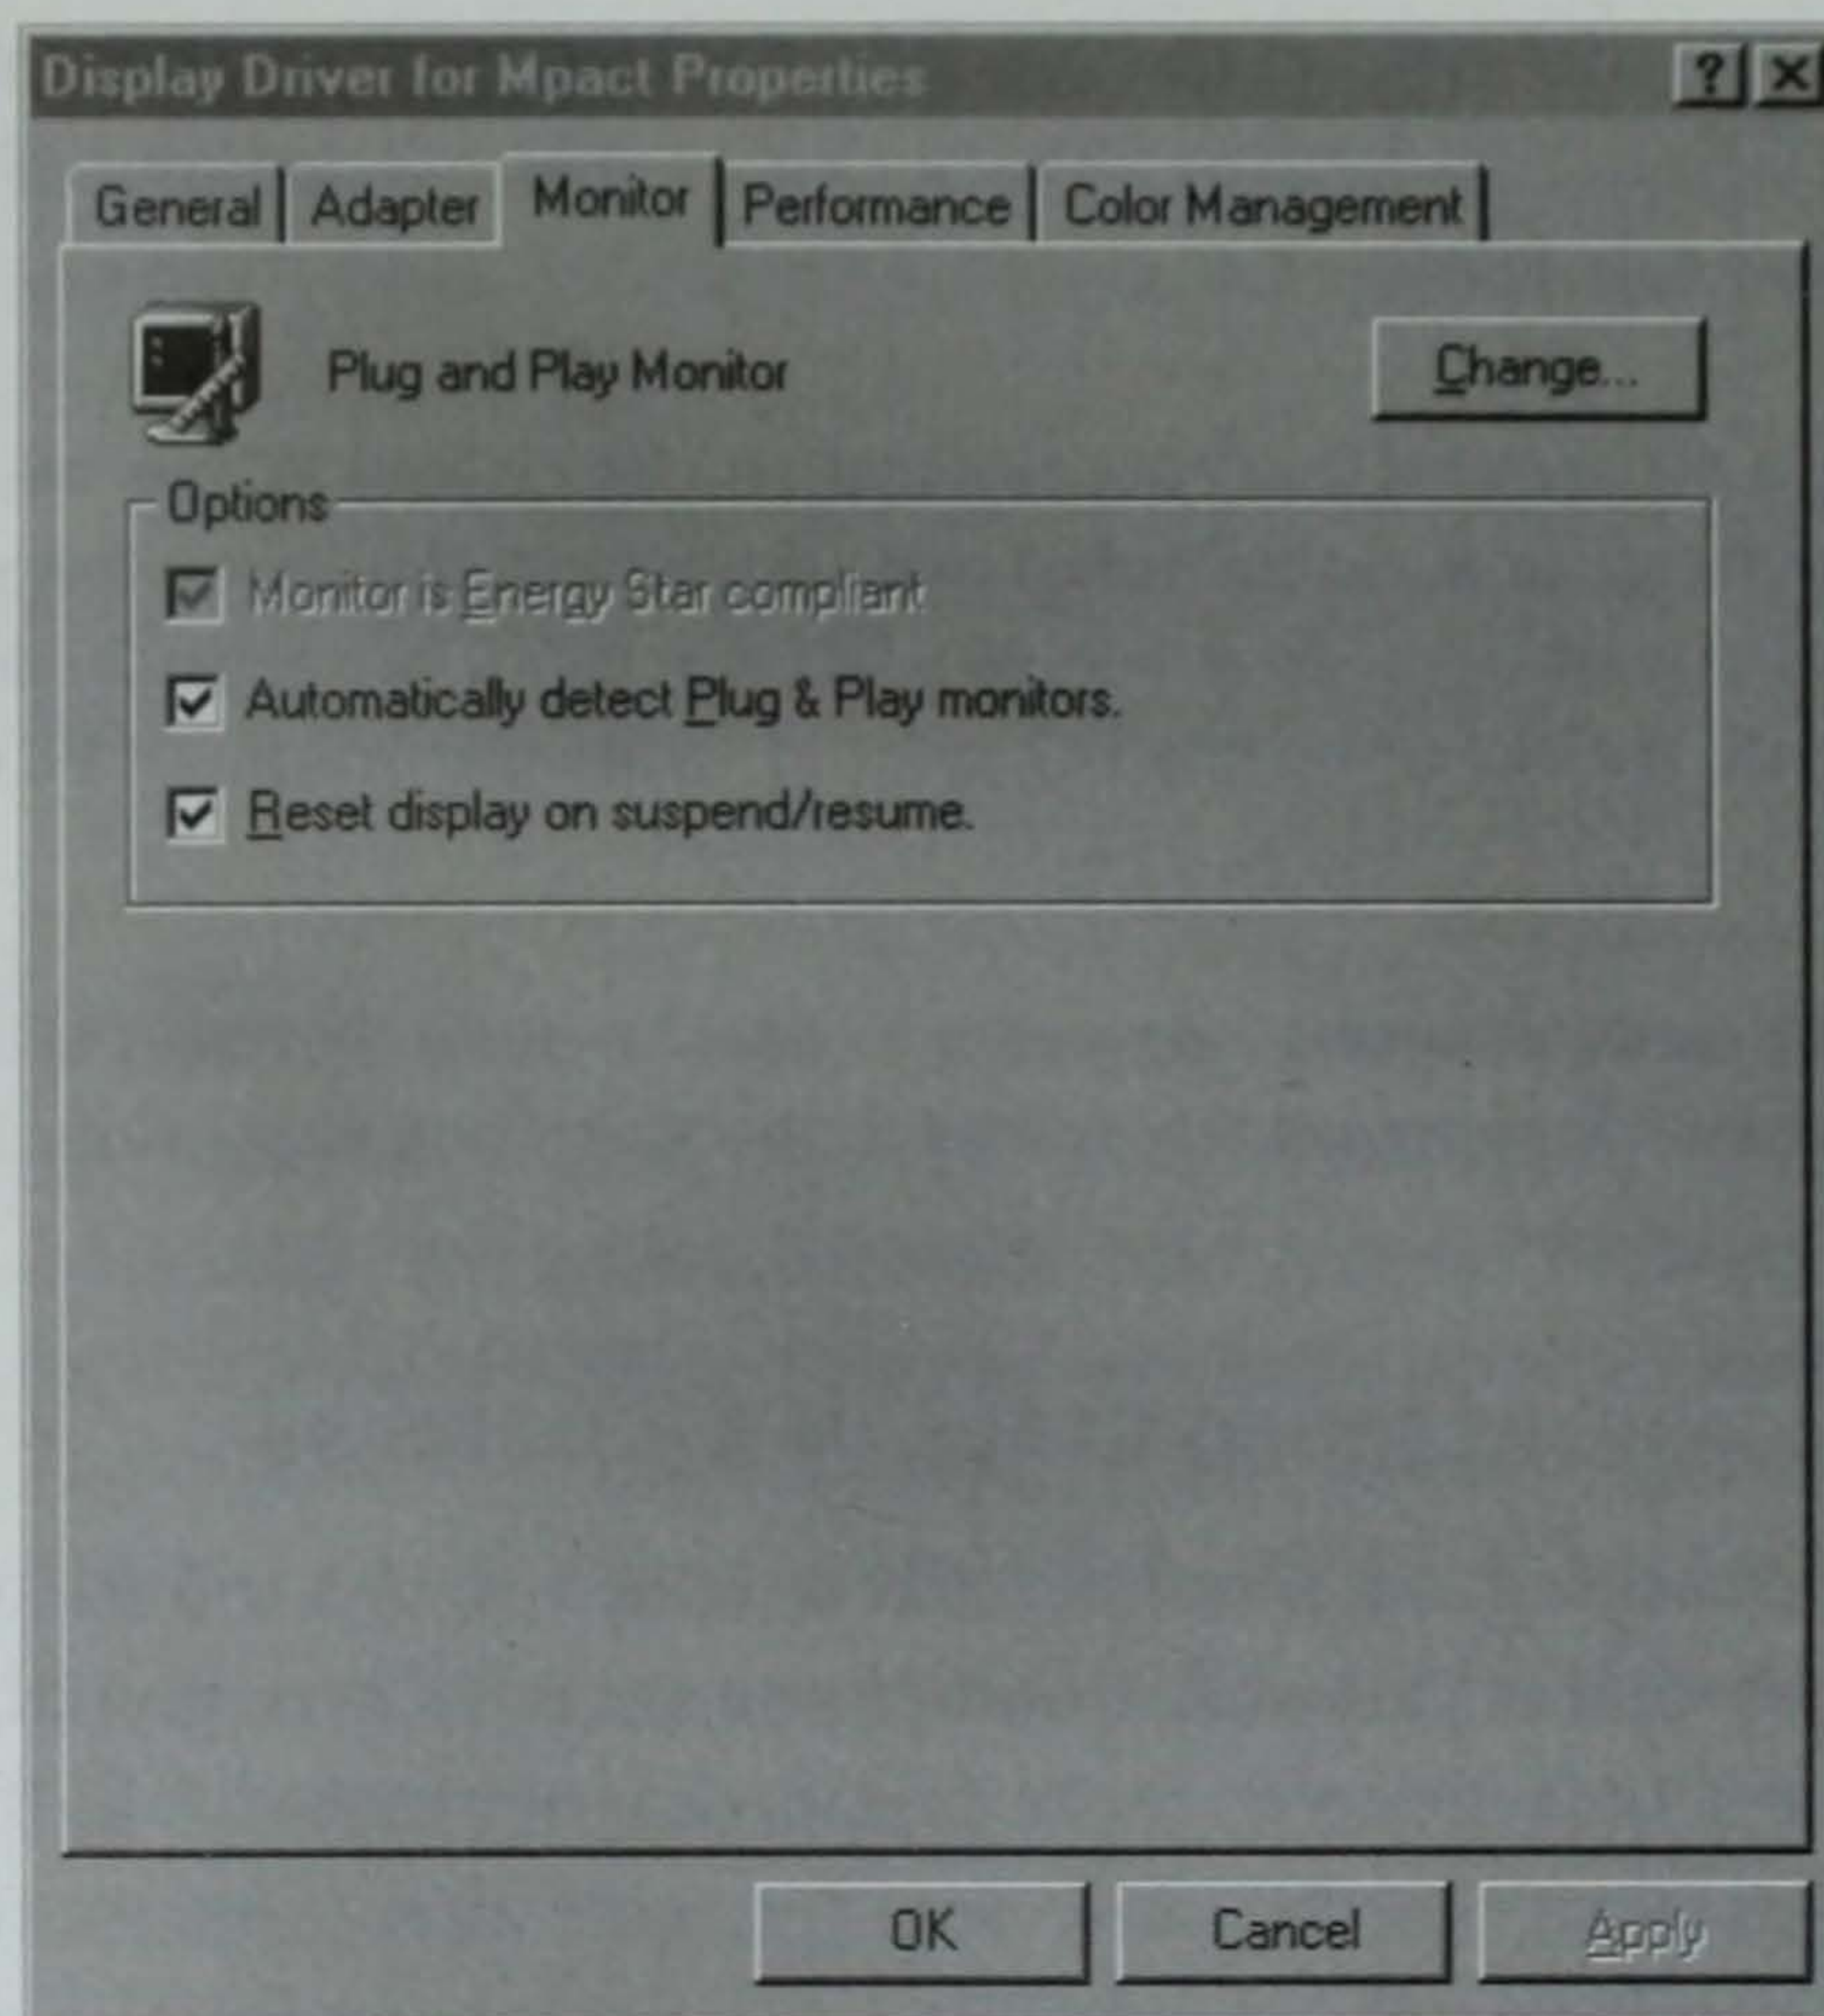

Figure 10.1 Control Panel/Display Settings Tab/Advanced/Monitor.
2. Choose the Settings tab, then click on the button marked Advanced, as shown in Figure 10.1.